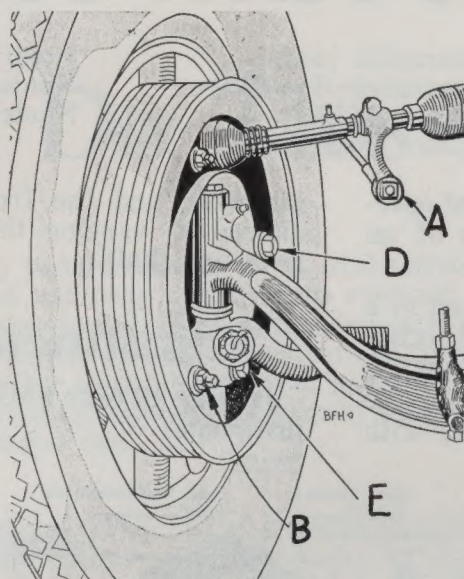
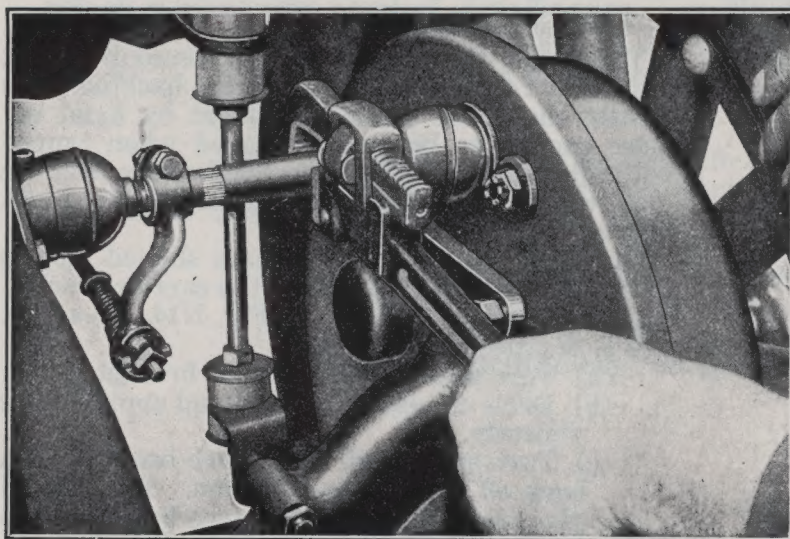

Fig. N18. Frame side of backing plate showing various adjustment controls
Fig. N20. Applying front brake with pipe wrench for resetting cam operating lever. Note lever is off serrations
1. Loosen eccentric adjustment lock nut (B, Fig. N18) and turn eccentric in direction wheel revolves when car moves forward, until secondary shoe is tight against drum. Then back off gradually until wheel is just free.
- (b) Loosen operating lever clamp bolts (Fig. N20) and slide levers off serrations.
3. Take up on each ball nut (A Fig. N18) until wheel just drags. Back off until just free.
6. To adjust anchors: Jack up all four wheels. Turn eccentric adjustment (B, Fig. N18) away from articulating pin and leave loose. Slacken anchor pin nuts free of lock washer. Tap both anchors out toward edge of drum as in Fig. N11. Hold brake on tight by 100-pound load on the end of a 10-in. pipe wrench. See Fig. N20. Tap anchor on end and